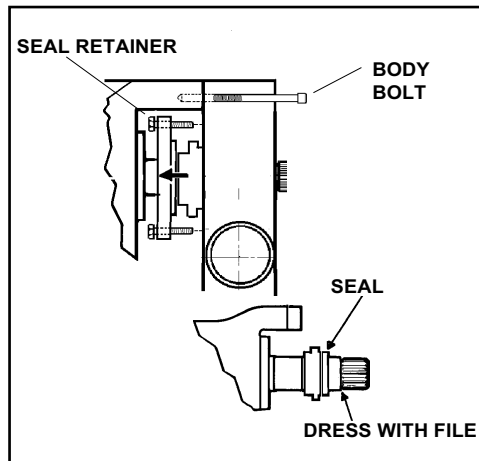

Figure 37 - Remove Pump Body
1. Remove the cap screws from seal seat retainers and slide retainers back against bearing gear case, as shown in Figure 37.